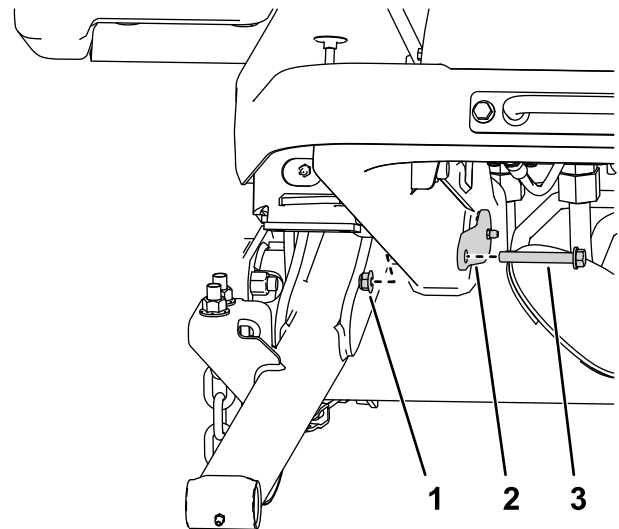

Figure 4
- D. Remove the nut and bolts securing the large pins to the lift arms as shown in Figure 4.